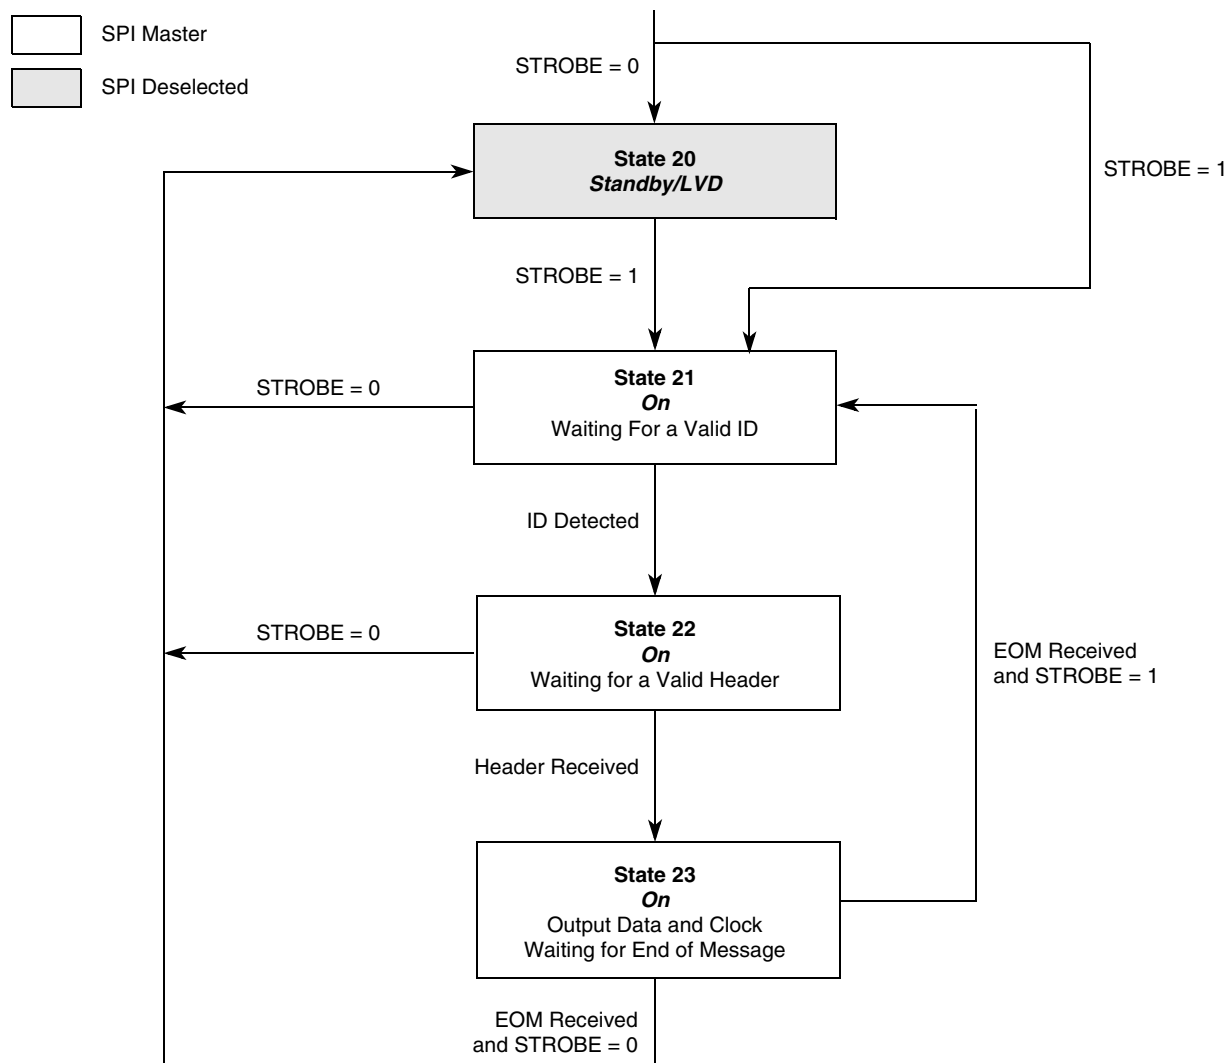

Figure 35. Receive Mode, DME = 1, SOE = 0
- External signal and internal conditions: see Figure 33 and Figure 35 for information on how to enter standby/LVD mode.
Figure 35 shows the state diagram when the data manager is enabled and the strobe oscillator is disabled. In this configuration, the receiver is controlled only externally by the MCU.